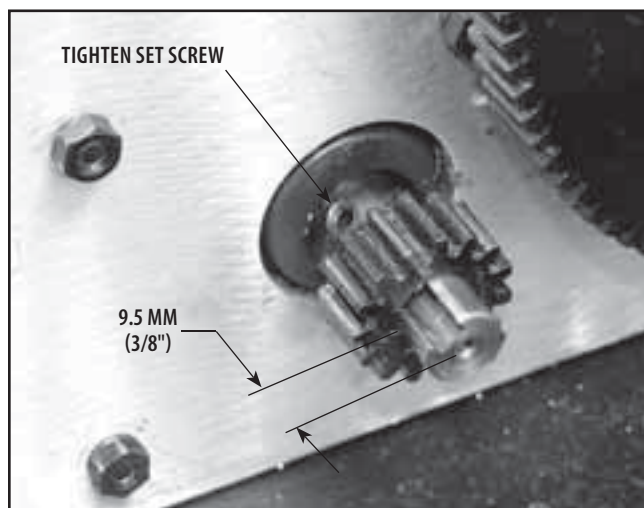

FIGURE 6.61
1. Install new Motor Drive Gear onto Motor Shaft. Align Set Screw with the Key Slot in the Motor Shaft. See Figure 6.61.
2. Adjust the Gear position until the face of the gear is 9.5 mm (3/8 in) from the face of the shaft. See Figure 6.61.